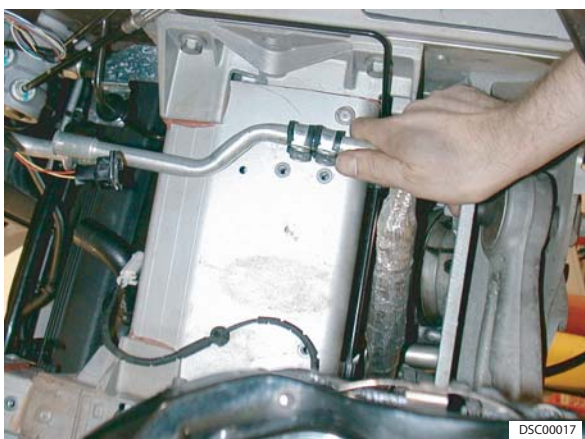

Figure 12
43. Remove bolts (x2) LP pipe to body P-clips and move aside (refer to Figure 12).